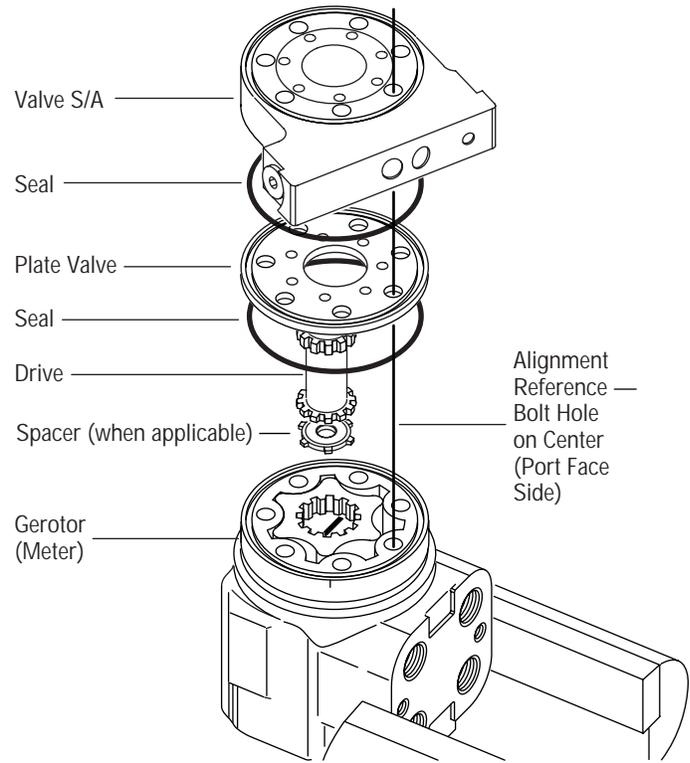

Figure 28
- 33 Install valve S/A, see figure 28 for correct position.